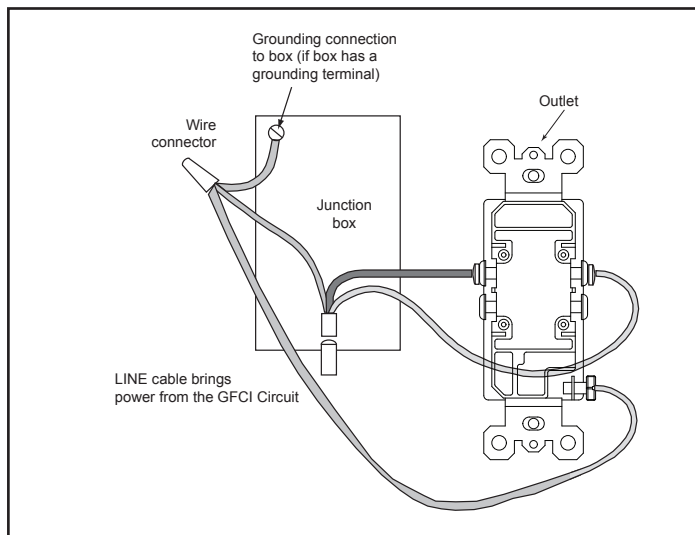

Figure 5.3. Wire Junction Box
- Wire junction box and reassemble. See Figure 5.3.